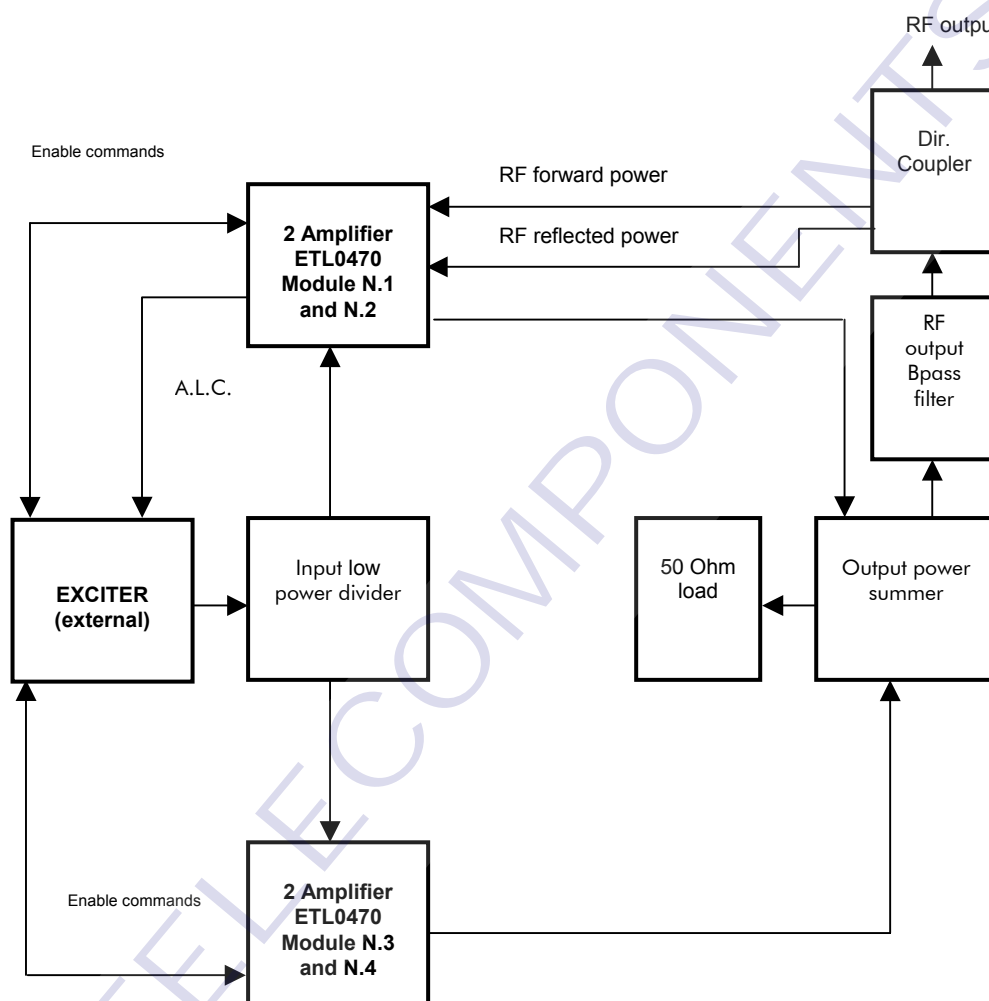

Figure 2: ETL0550TAD TV RF Amplifier blocks diagram
- ⇒ Pinch the victim's nose and blow firmly into his mouth. As you do, his chest will RISE (figure 2).
- With reference to the general Blocks diagram, Figure 2, the output signal from the Exciter, at a nominal level of 4 W, reaches the Input low power divider, which splits the drive into 4 components of 1 W each. This system incorporates a step attenuator and a step phase shifter to adjust the slight differences of gain and phase of the four RF Amplifiers. The resultant signals drive the four ETL0470 RF Amplifiers to a nominal output of 500 W each. The Output power summer connected to the outputs of the four RF Amplifiers sums the output signals to a nominal level of 2 kW.